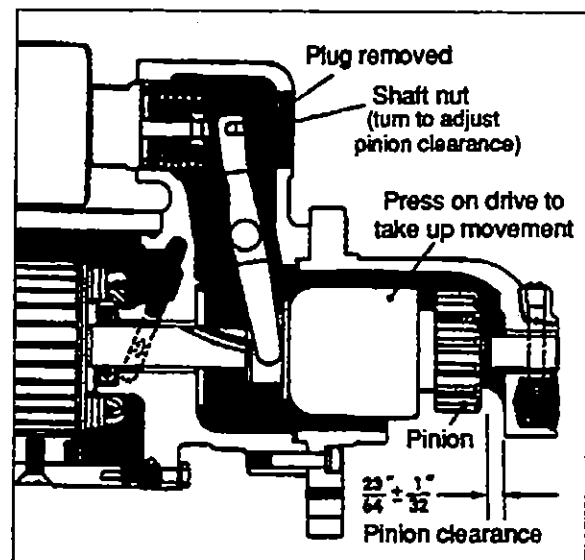

Figure 39
Pinion clearance should be checked after reassembly of motor to ensure the clearance is within specifications. To check pinion clearance (starting motor off engine), first disconnect the motor field connector from the solenoid motor terminal. Connect 24 volt battery with the positive battery lead to the solenoid switch terminal (5), and the negative battery lead to the grounded (G) solenoid terminal. Momentarily flash a jumper lead from the solenoid motor terminal to the grounded (G) solenoid terminal. The pinion gear will now shift into cranking position and remain that way until the battery is disconnected. Push the pinion or drive back towards the commutator end to eliminate slack movement. Measure the distance between pinion and pinion stop. This should be $23/64" \pm 1/32"$ (9,5 mm \pm 0,79 mm). Pinion clearance is adjusted to these limits by turning the solenoid shaft nut after removing access plug in shift housing. See figure 39.